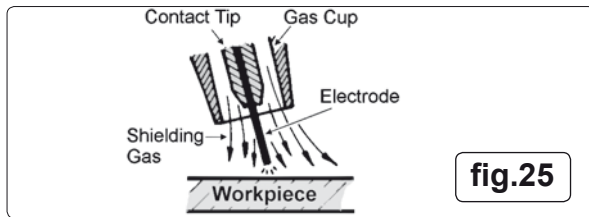

fig.25
- 8.1 **MIG/MAG welding.** (See fig.25). A spool of welding wire is placed on the spool holder and automatically fed through an insulated liner in the torch to its tip. The torch consist of a switch, liner, gas hose, and control cable. The switch activates the wire feed roller and the gas flow. Releasing the switch stops wire feed and gas flow. The weld current is transferred to the electrode (the wire) from the contact tip at the torch end.
Wire speed must be adjusted according to power output. The higher the current the faster the wire speed. A gas cup fits over the contact tip to direct gas flow towards the weld ensuring the arc welding process is shielded from oxidising air contamination (fig.25). The shielding gas also assists heating of the weld. The torch is connected to the positive side of a DC rectifier, and negative clamp is attached to the workpiece.